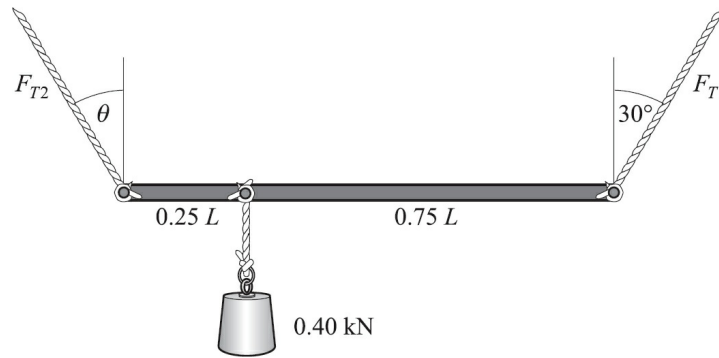

Fig. 5-19
5.29 [III] The horizontal, uniform, 120-N board drawn in Fig. 5-19 is supported by two ropes as shown. A 0.40-kN weight is suspended one-quarter of the way from the left end. Find F_{T1} , F_{T2} , and the